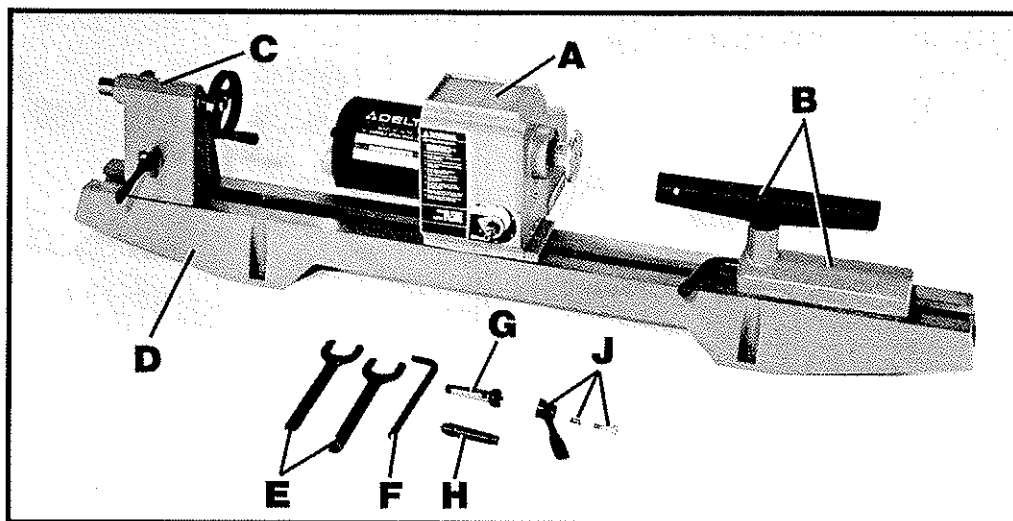

Fig. 2
1. Fig. 2, illustrates the lathe and all loose items after they are removed from the carton. The headstock (A), tool rest (B) and tailstock (C) are mounted to the lathe bed (D). Loose items shipped with your lathe are the two spindle wrenches (E), headstock positioning wrench (F), headstock spur center (G), tailstock cup center (H) and variable speed handle, spring and screw (J).